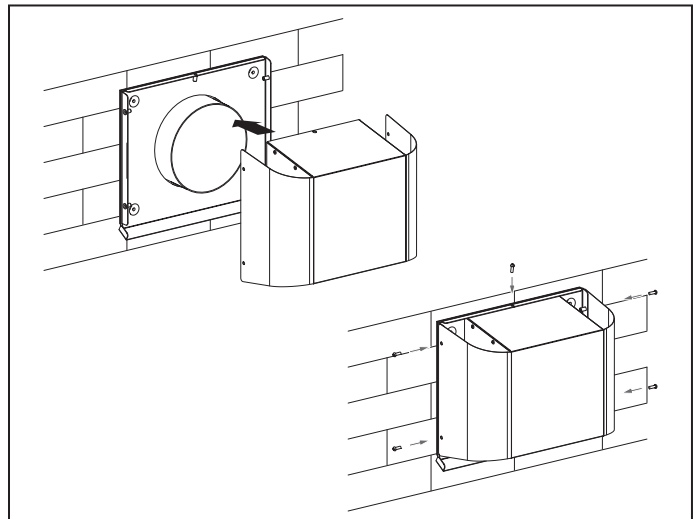

Fig. 14b.
- Fig. 14b – for the model VENTO A50 S / A50-1 S.